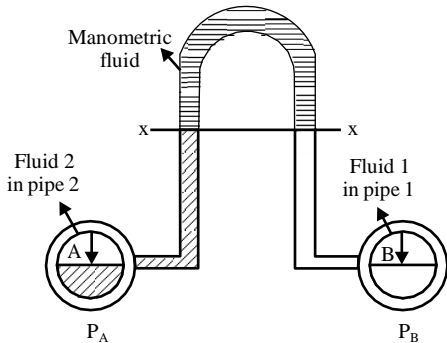

Figure 2.11a: Just before connecting inverted differential U-tube
b) Inverted Differential U-tube Manometer: Inverted differential U-tube manometer is a device just as same that of U-tube differential manometer but is inverted in construction. It measures pressure difference ΔP at two different points "A" and "B" in a single pipe or different pipes, carrying two fluids of same or different kinds, as shown in Figure 2.11a. As small change in